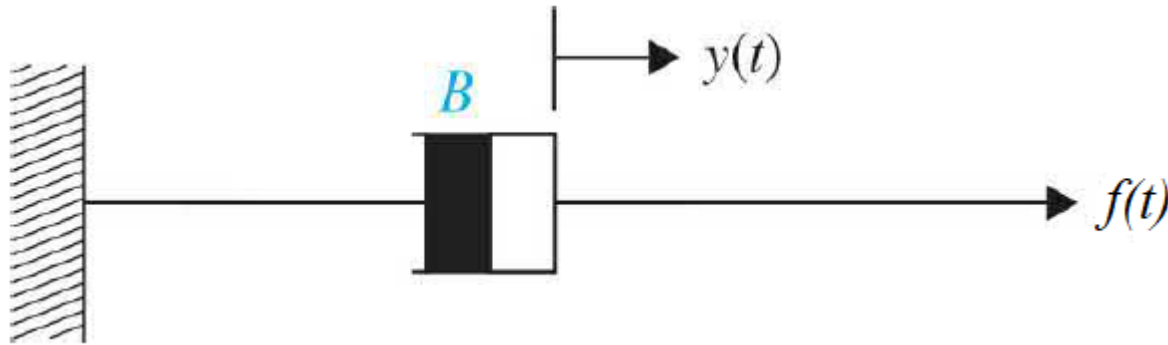

Figure 3. Dashpot for viscous friction
- ❖ The dashpot for viscous friction is illustrated in figure 3